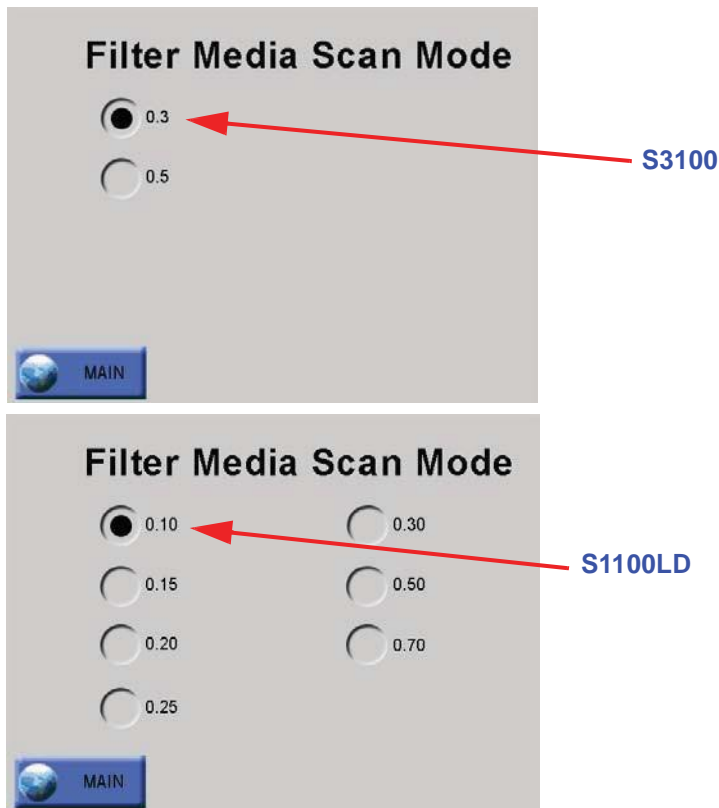

Figure 3-3 Filter Media Scan Mode Screen
4. Press the Scan Mode ICON to open the Filter Media Scan Mode screen. Press the desired particle size as shown in Figure 3-3.